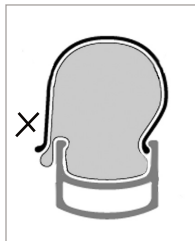

FIGURE 3.44
7. With only your hands, push the second bead into the rim. Start at the valve stem. Do not pinch the tube between the rim and the tire (Figure 3.44).